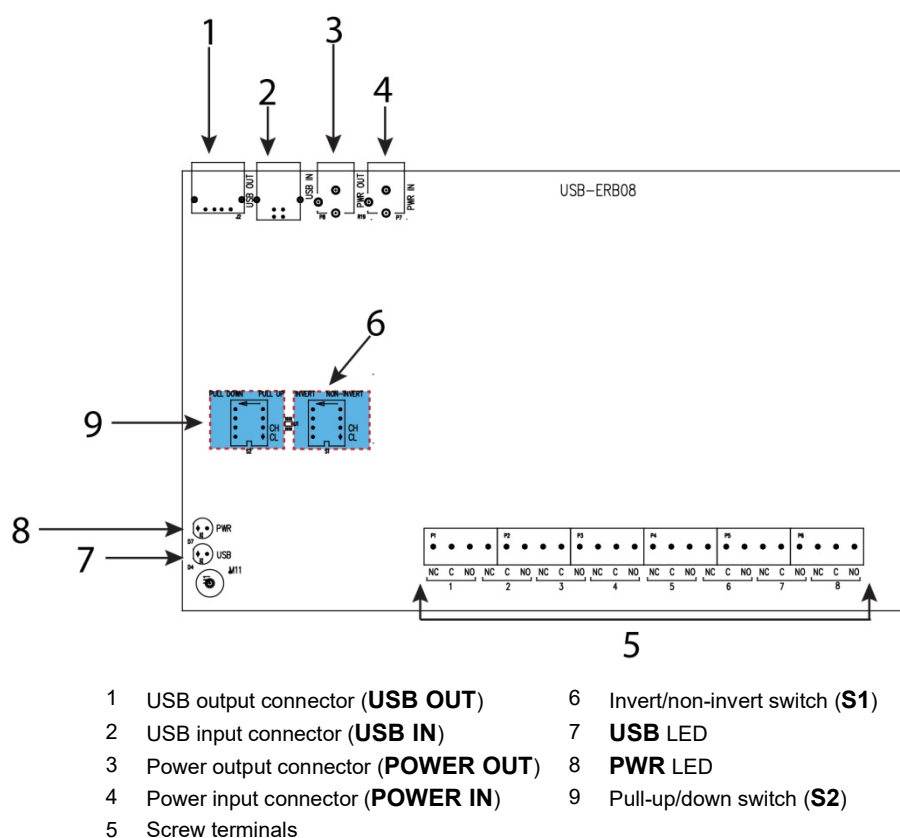

Figure 5. USB-ERB08 components
The USB-ERB08 has banks of onboard switches that configure the relay logic polarity and relay power-up state. Configure these switches before you connect the external power supply to the USB-ERB08. Factory-configured default settings are listed in the table below. Refer to Figure 5 on page 9 for the location of each switch.
1. Connect the external power cord to the power connector labeled **POWER IN** on the USB-ERB08 enclosure (**PWR IN** on the board). Refer to Figure 5 for the location of this connector.
The **USB** LED turns on. Refer to Figure 5 on page 9 for the location of the **USB** LED.
The USB-ERB08 has the following internal components, as shown in Figure 5.